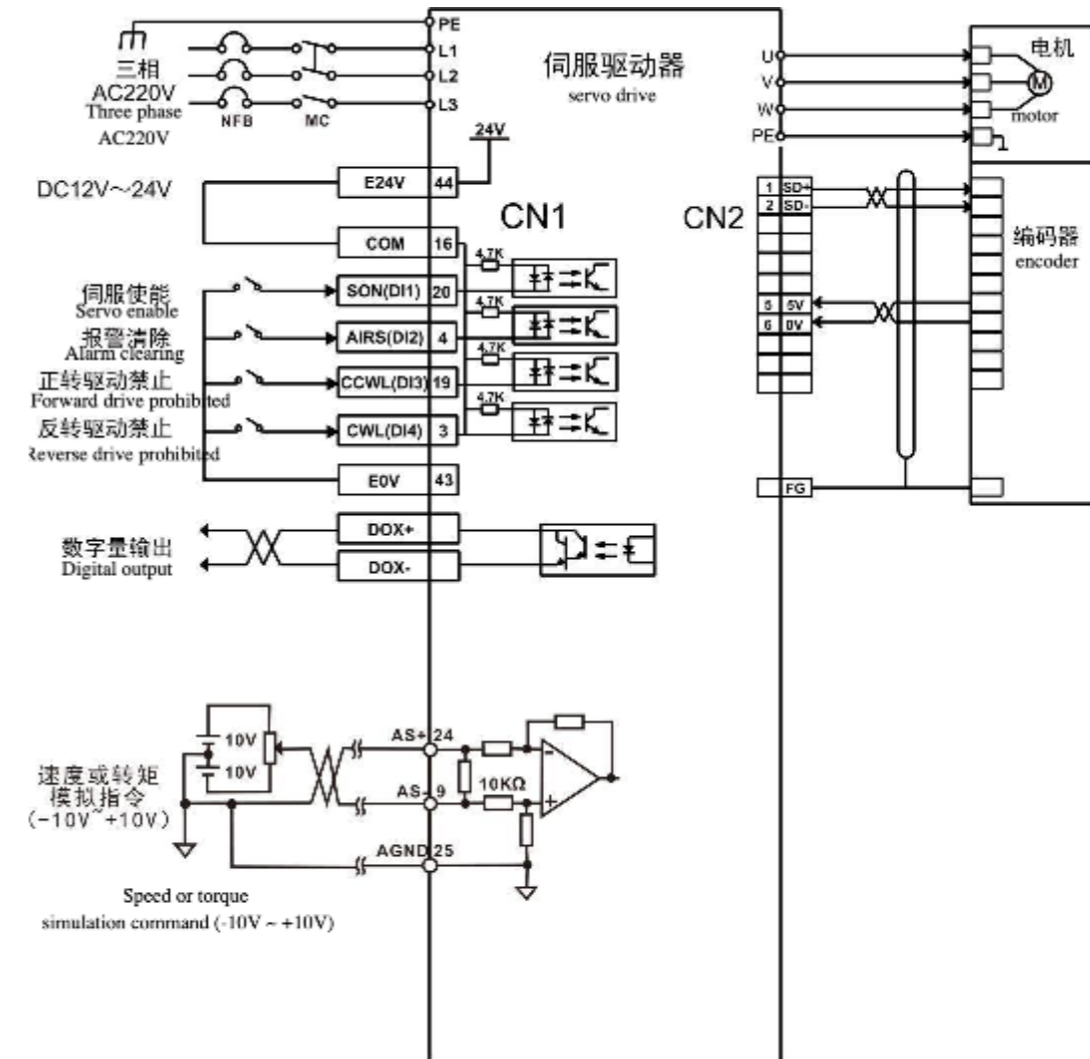

Figure 5.4 Speed mode wiring diagram
- 3) Refer to Figure 5.4 for wiring instructions to connect the required DI/DO signals in the CN1 terminal, such as servo enable, alarm clear, position completion signal, etc.